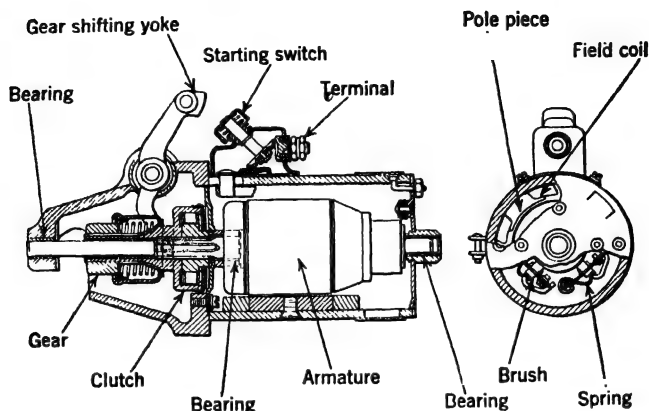
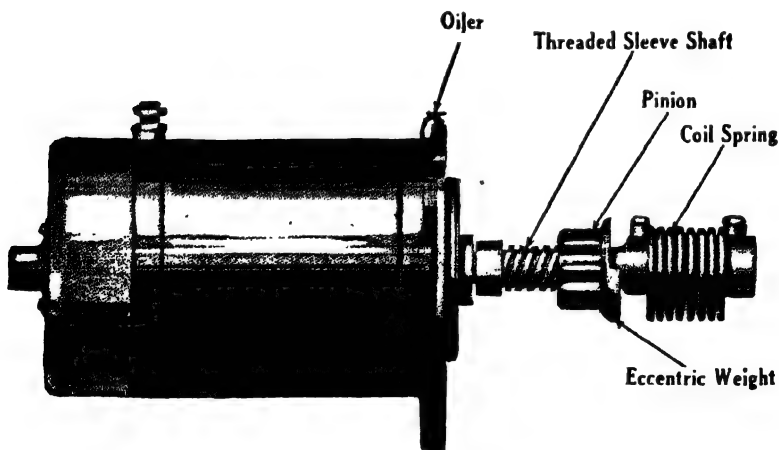

FIG. 155.—Starter Motor with Mechanical Engagement of Pinion and Flywheel Gear. (Marmon.)
FIG. 156.—Bendix Drive on Starting Motor.
Figure 155 shows a starter and its driving mechanism. The pinion is shifted into mesh when the foot pedal is pressed down.
Bendix Drive.—With the Bendix drive (Fig. 156) the power developed by the starting motor is transmitted to the engine flywheel through an automatic screw shift pinion which is mounted on an extension of
The drives most commonly used to connect the starting motor to the flywheel are: (1) The Bendix drive (Fig. 156); (2) the sliding pinion used on Delco single unit systems, Buick cars (Fig. 22*e*, p. 232); and the starters of two-unit systems employed on numerous cars (Fig. 155).